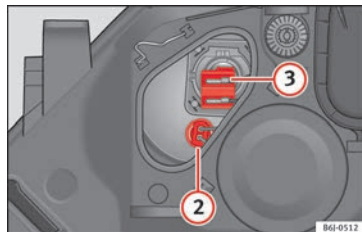

Fig. 89 Side light and main beam headlights.
- Remove connector »» Fig. 89 ② by pulling outward.
- Remove connector »» Fig. 89 ③ by pulling outward.